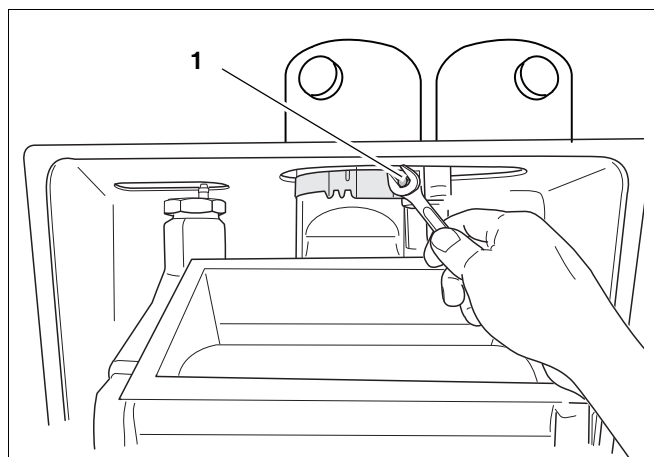

fig. 103 Loosening the fastening screws of the internal condensate water overflow valve
- Loosen the fastening screws of the internal condensate water overflow valve (see fig. 103, pos. 1).